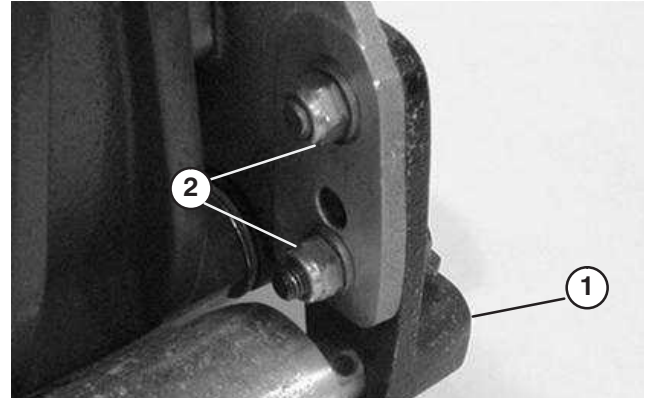

Figure 14
4. Loosen locknuts securing right rear roller bracket to cutting unit sideplate (Fig. 14).